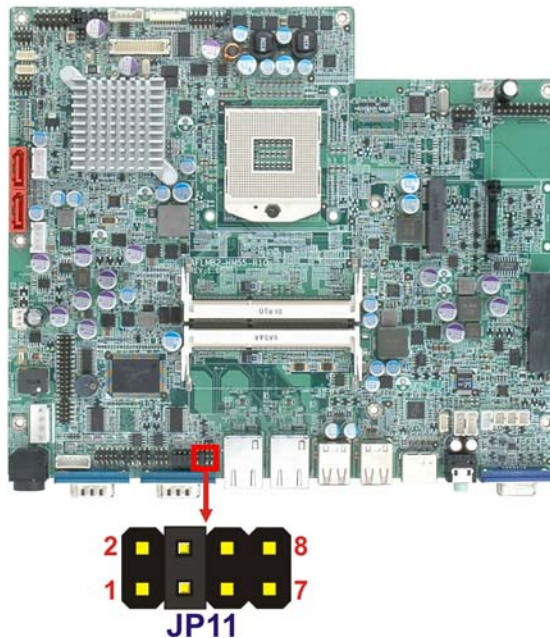

Figure 3-12: COM3 RX Function Select Jumper Location
- Jumper Location: See Figure 3-12
The COM3 RX Function Select jumper location is shown in Figure 3-12.